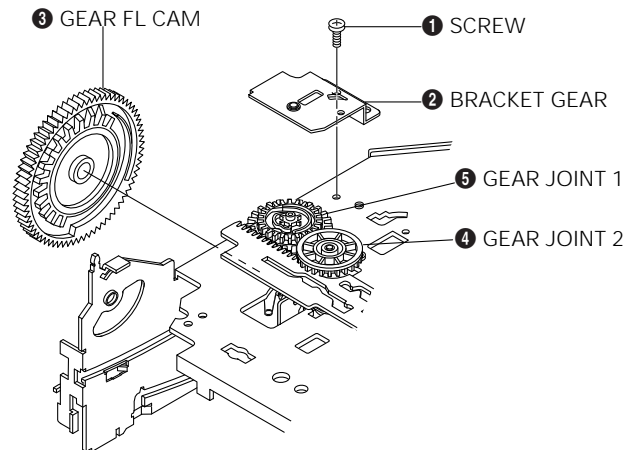

Fig. 1-9 Bracket Gear, Gear FL Cam, Gear Joint 1, 2 Removal
- 1) Release the Hook [A] in the direction of arrow and, remove the Holder Worm ❶.
- 2) Remove the Gear Worm ❷.
- 3) Remove the Gear Worm Wheel ❸. (After removing the Gear FL Cam as shown Fig. 1-9)